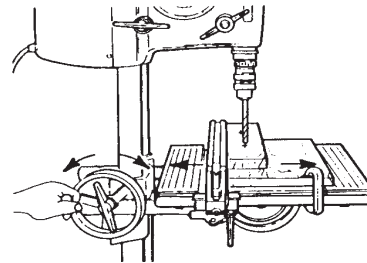

Figure C-23
3. Mark the holes on the stock, and lay it on top of the scrap. Adjust the rip fence to position the hole where you want it. Make fine adjustments with the table height crank. See Figure C-23.